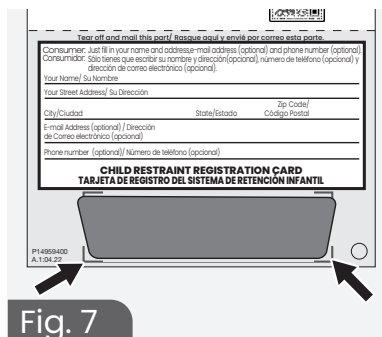

Fig. 7
3. **Unfold** the new registration card, locate the consumer information section and adhere the corresponding date of manufacture label to the one applied to the child restraint above in step 2 (Fig. 7).